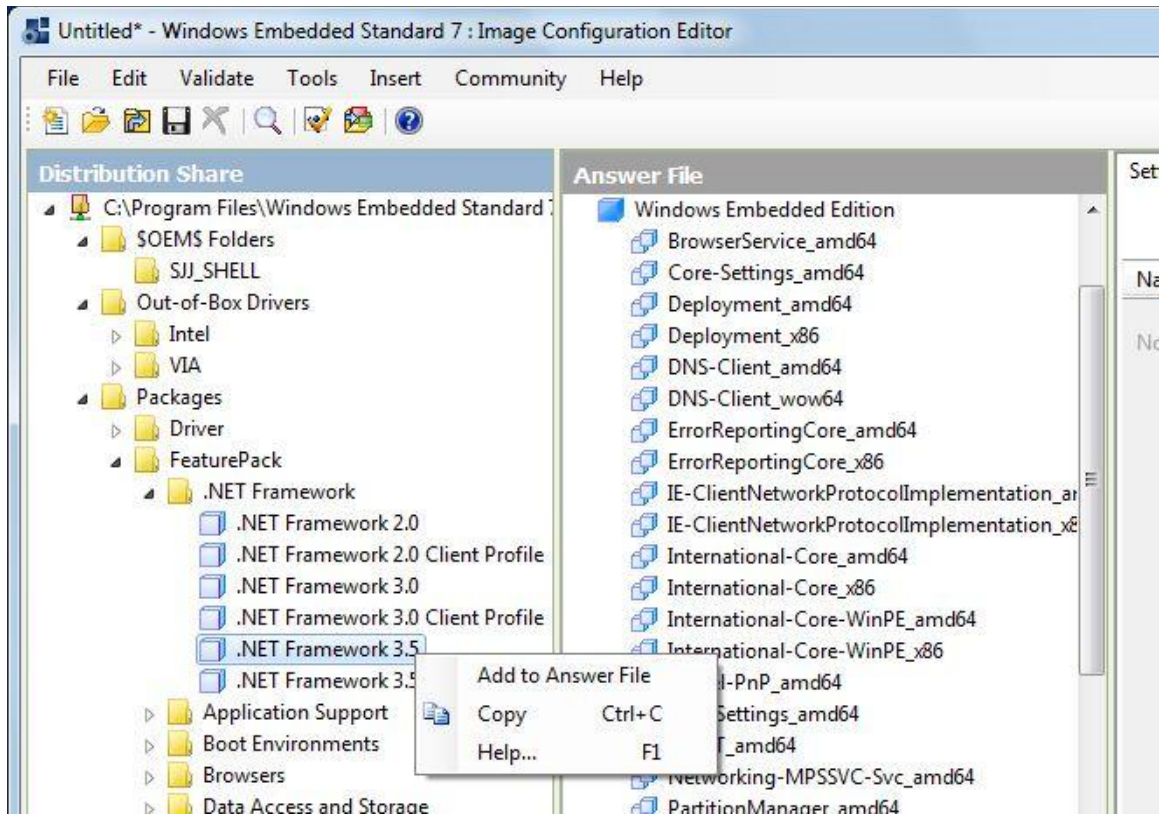

Figure 5-6 - Add .NET Framework 3.5 to Answer File
- The SJJ Shell requires .NET Framework 3.5 to run; so in the Distribution Share, expand Packages. Then under Packages expand FeaturePack. Under FeaturePack expand .NET Framework. Finally, under .NET Framework, right-click on .NET Framework 3.5 (**not** .NET Framework 3.5 Client Profile) and select “Add to Answer File” Figure 5-6.